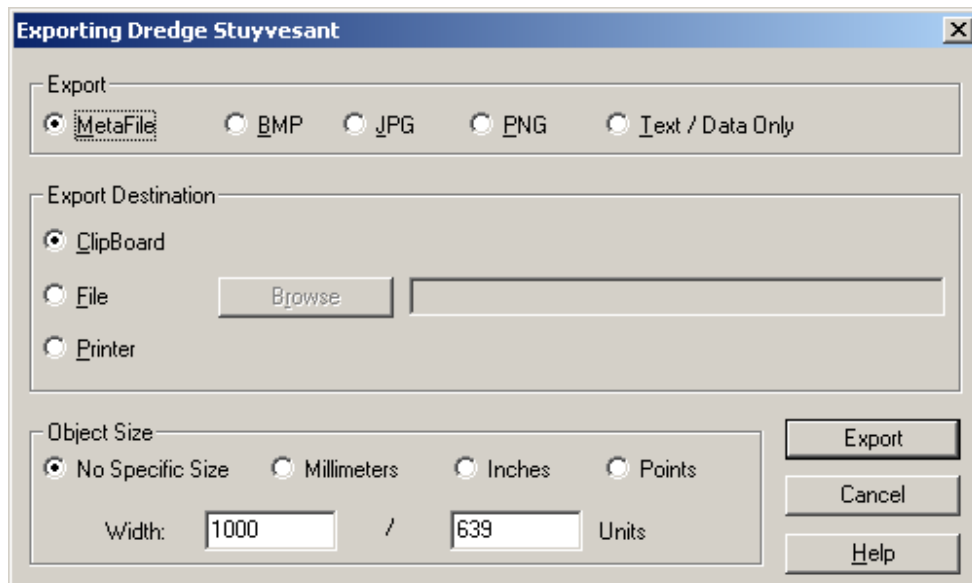

Figure 2.15 Export window
1. Click **Export** at the bottom of the plot customization window. The export window will then appear as shown in Figure 2.15